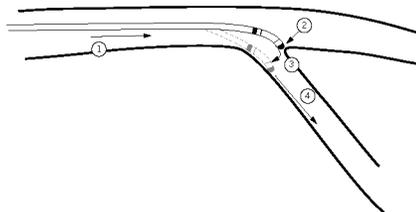

Figure 12. Lead placement using the Advance or Push Method.
1. Advance the lead, pre-straightened with a stylet, to the junction of the branch vein (Figure 12).
2. Use the canted shape of the straightened lead to catch the ostium of the target branch (Figure 12).
3. Retract the stylet to allow the lead tip to deflect into the target branch (Figure 12).
4. Advance the lead further into the branch vein, using the stylet as necessary (Figure 12).